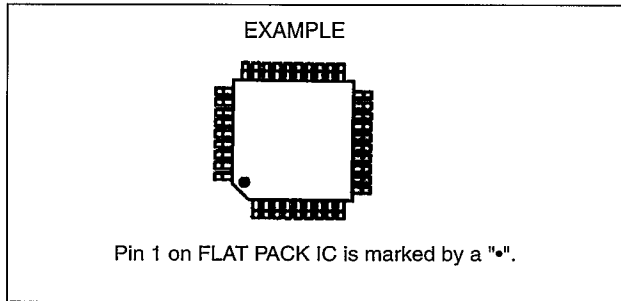

Fig. 2-9
b. The "•" mark on the Flat Pack IC indicates pin 1. Make sure this mark matches the 1 on the P.C.B. when positioning for installation. Then pre-solder the four corners of the Flat Pack IC. (see Fig. 2-9).